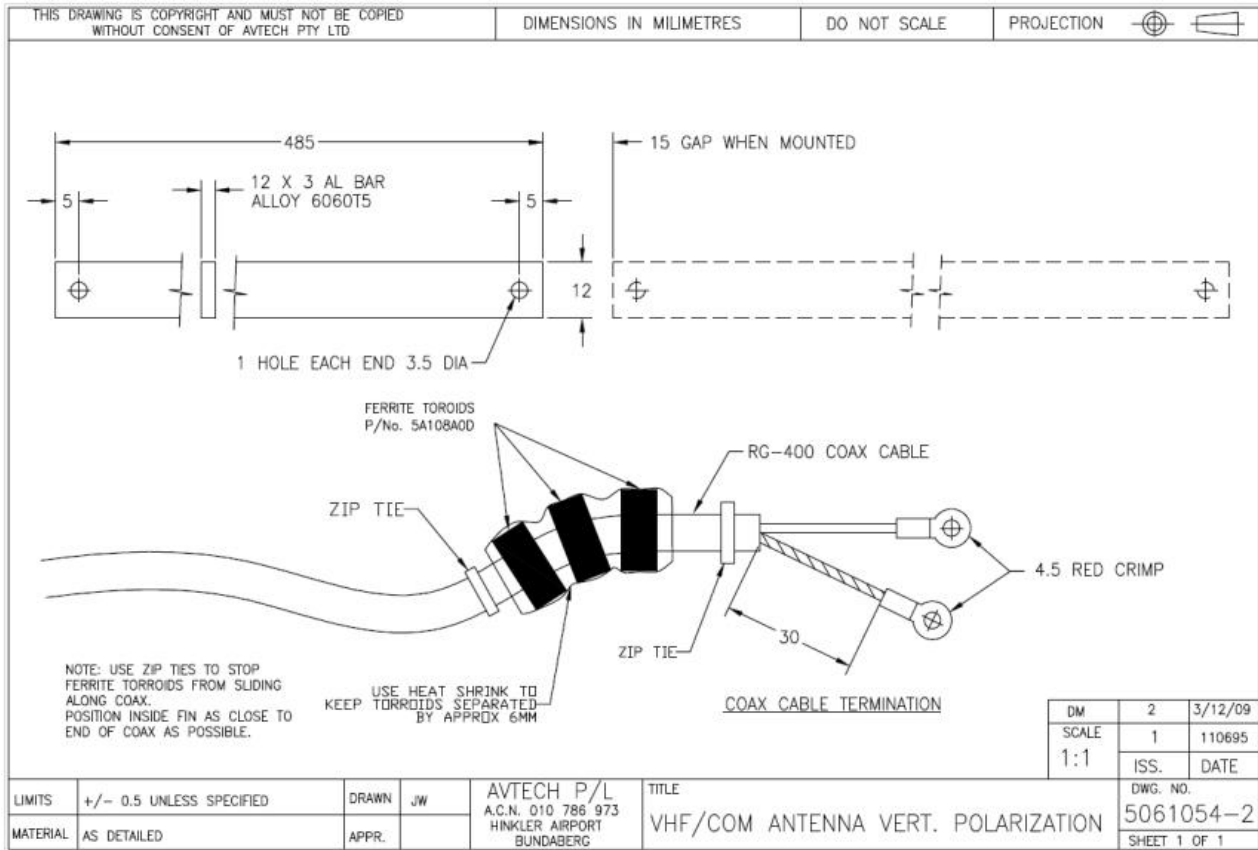

Figure 128 – VHF Antenna Installation
- The main VHF radio antenna is installed within the spar at the rear of the tail fin. It consists of two sections as shown in Figure 128.